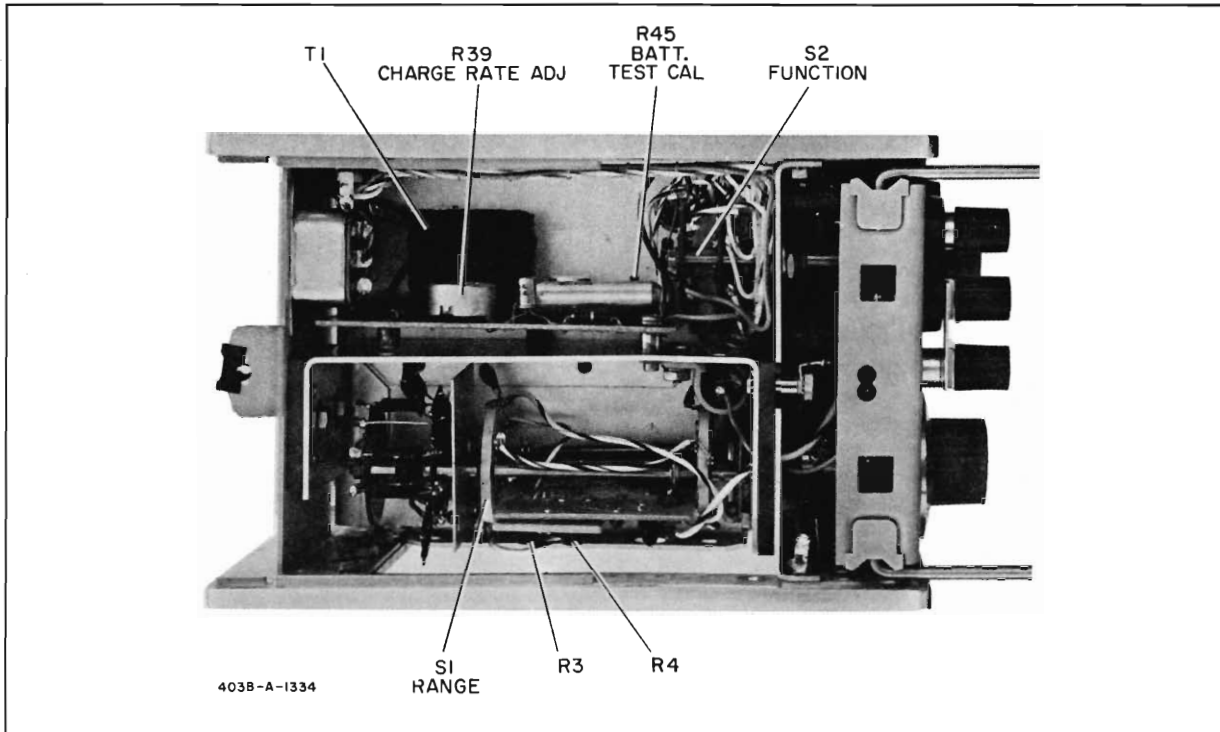

Figure 5-2. Model 403B Bottom View
- b. Connect a Clip-On DC Ammeter (-hp- Model 428A/B) probe around the violet wire connected to battery BT4. Adjust R39 (see Figure 5-2) for an indication of 6.2 mA on the DC Ammeter.